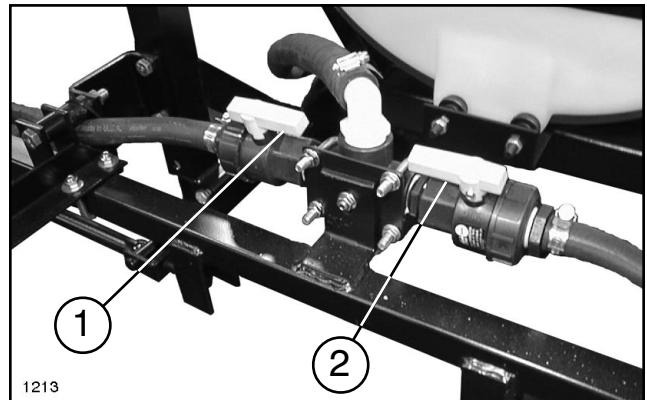

FIG. 7
7. Assure that both Boom Shutoff Valves are open. See Fig. 7.